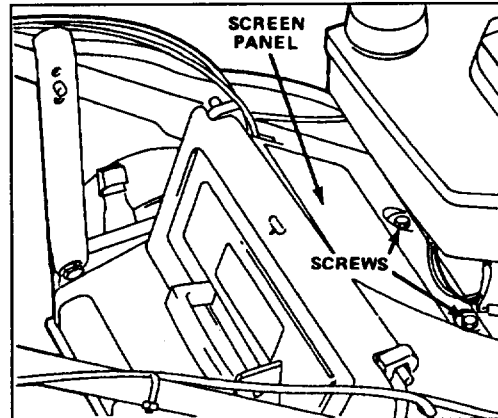

Figure 30
6. Remove screen panel on mower housing and clean around blade brake mechanism (Fig. 30 & 31).